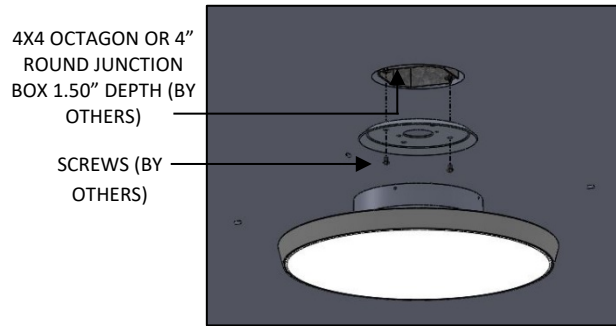

FIG. 5- MOUNTING PLATE INSTALLATION
2. Attach MOUNTING PLATE TO JUNCTION BOX (BY OTHER) as shown below in FIG. 5.